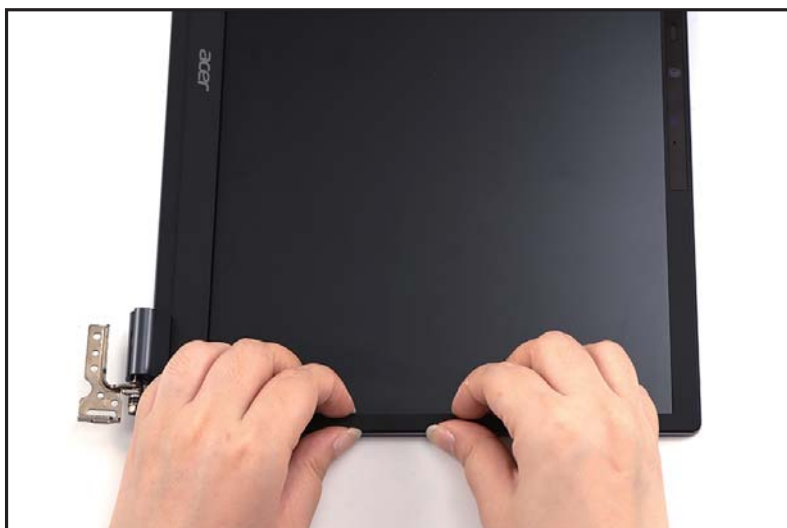

Figure 1-53. LCD Bezel Removal
3. Pry the LCD bezel from the right side to release the latches (Figure 1-53).